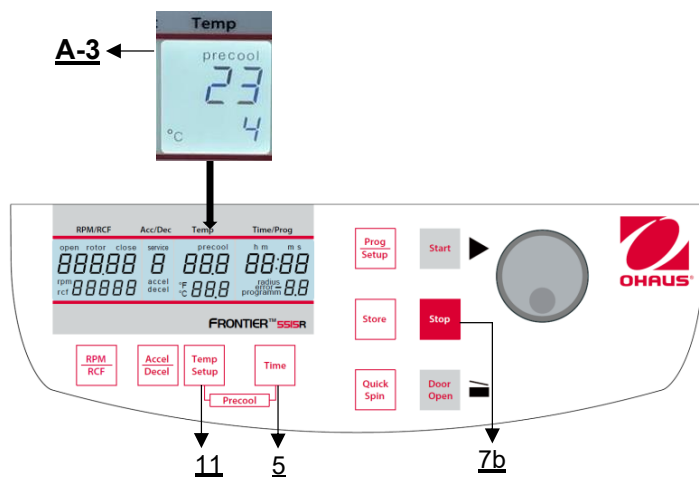

Figure 20
If the samples are temperature-sensitive it is useful to pre-cool the centrifuge, the rotor and eventually the buckets to the required working temperature. Therefore, insert the desired rotor and pre-set the respective temperature. By simultaneous pressing the keys **"Temp/Setup"** (11) and **"Time"** (5) you can start the run (**Figure 20**). While running, the unit chooses automatically a rotational speed that is equivalent to 30 or 50 % of the permitted rotational speed of the respective rotor (depending on the rotor). After the pre-set temperature is reached you can leave the pre-cooling run with the key **"Stop"** (7b).